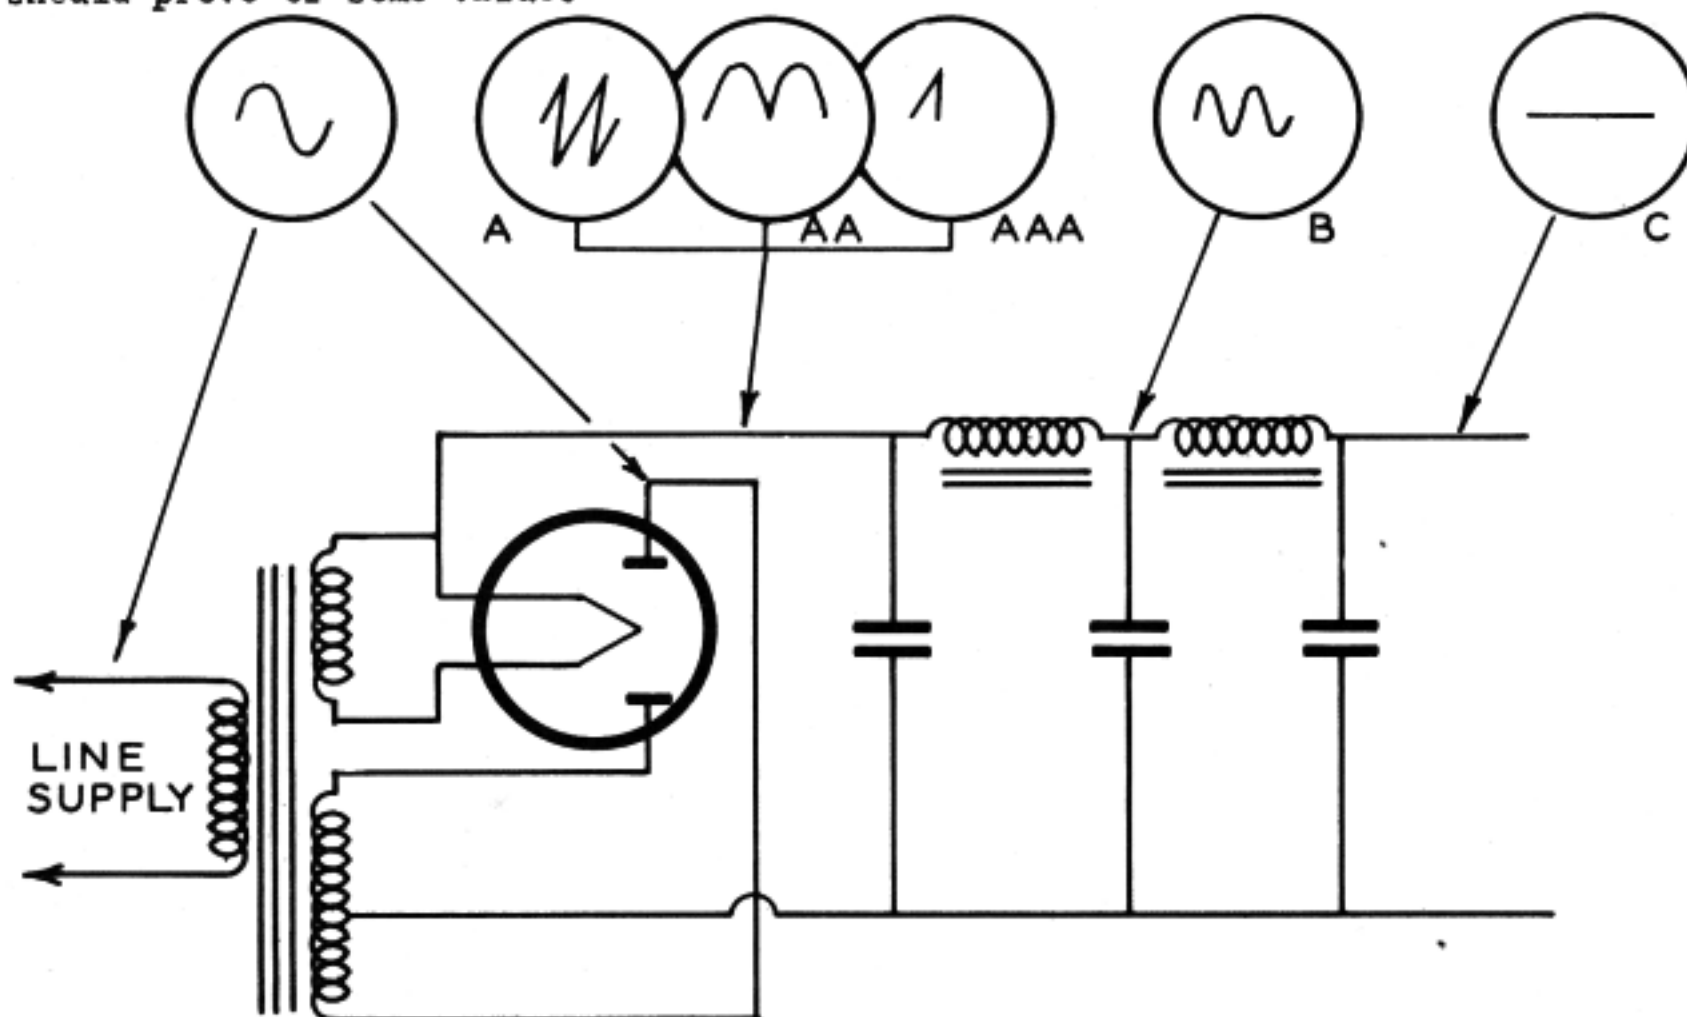
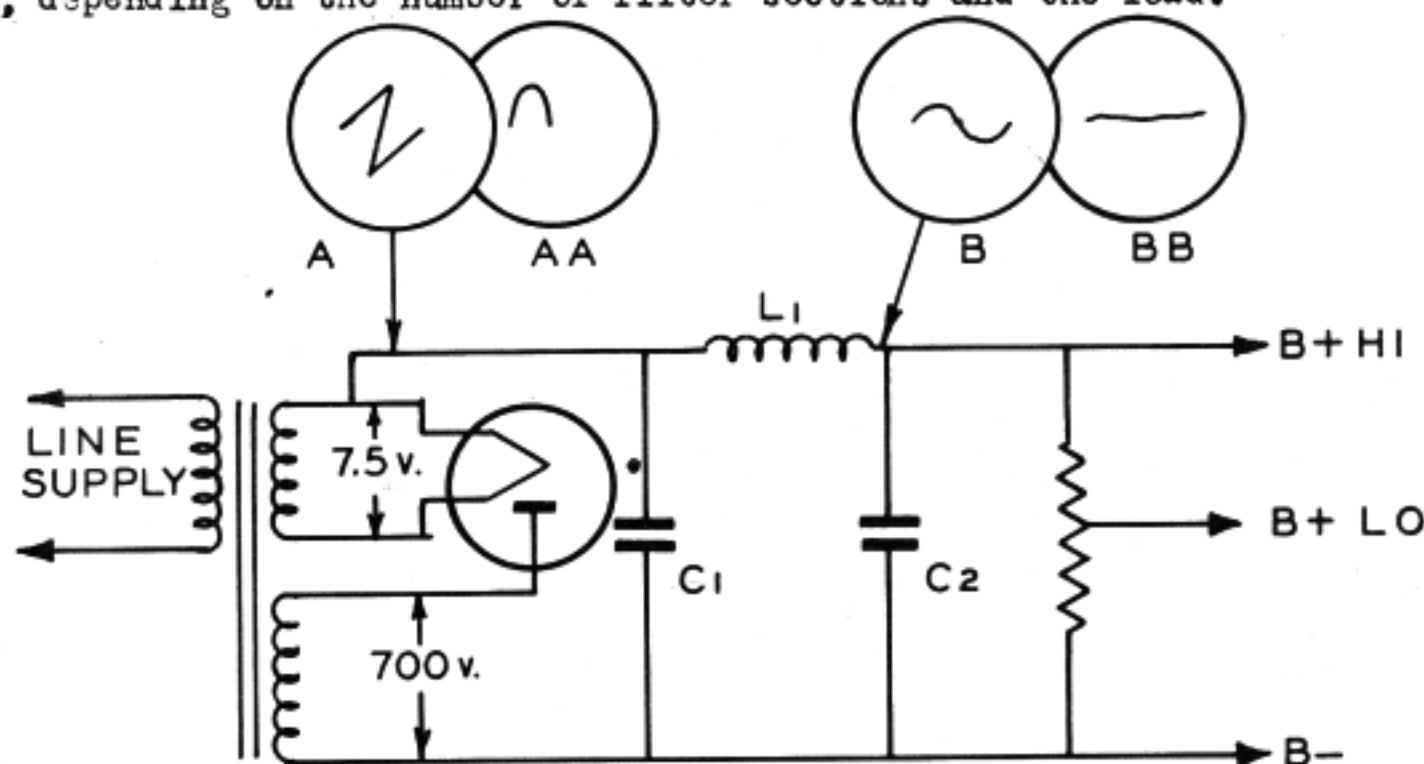

FIG.12: TYPICAL FULL-WAVE RECTIFIER STAGE WITH CONDENSER INPUT FILTER AND TWO CHOKE-CONDENSER SECTIONS.
FIG.13-TYPICAL HALF-WAVE RECTIFIER CIRCUIT USING CONDENSER INPUT-FILTER.
The conventional full wave rectifier circuit shown in Fig. 12 is very popular among radio manufacturers for receivers to be sold in districts which have alternating current. One of the chief advantages of this system is that the full wave rectifier produces a ripple voltage of twice the frequency of the line voltage, which simplifies the filter network. This type of circuit usually consists of a power transformer, thermionic rectifier and a low pass filter system.
Fig. 12 shows a typical full-wave rectifier circuit with a brute force filter system. For the sake of comparison we have shown two complete filter sections, although many
The half-wave rectifier has come into prominence in the past few years due to the introduction of the small compact receivers and AC-DC sets. Frequently, in very old sets we will find the half-wave rectifier and sometimes we run upon the full-wave circuit using a double half-wave circuit. The half-wave rectifier using a transformer is illustrated in Fig. 13.
The transformerless AC-DC receivers use the half-wave rectifier circuits. The anode voltage supply is obtained directly from the line supplying a d-c potential very close to that of the line when used with a condenser input filter system. The variation in this circuit from that of Fig. 12 will be the absence of the transformer and an indirect heated cathode rectifier. One side of the line will form the negative return while the other side will be connected to the plate of the rectifier. As a rule, these small sets have the filaments of all of the tubes connected in series.
The results obtained with the half-wave circuit will be exactly the same as the full-wave rectifier when one side of the high voltage winding is open. This is represented by "A" in Fig. 13 and "AAA" in Fig. 12. Oscillogram "AA" of Fig. 13 illustrates the results to be expected when the first filter condenser is open or of low value or when the filter circuit is of the choke input type. The next points "B" and "BB" indicate hum and no-hum respectively.
Fig. 20A illustrates a typical diode detector circuit which you will observe looks similar to the half-wave rectifier shown in Fig. 13. The modulated signal on the secondary of the R.F. or I.F. transformer (C) is rectified by the tube T1 and the resulting audio component is developed across the diode load resistor at A. Filter C1 tends to reduce the high frequency to approach that of AA. The AVC voltage at "AVC BUS" and "B" should indicate a steady d-c potential regardless of the audio variation